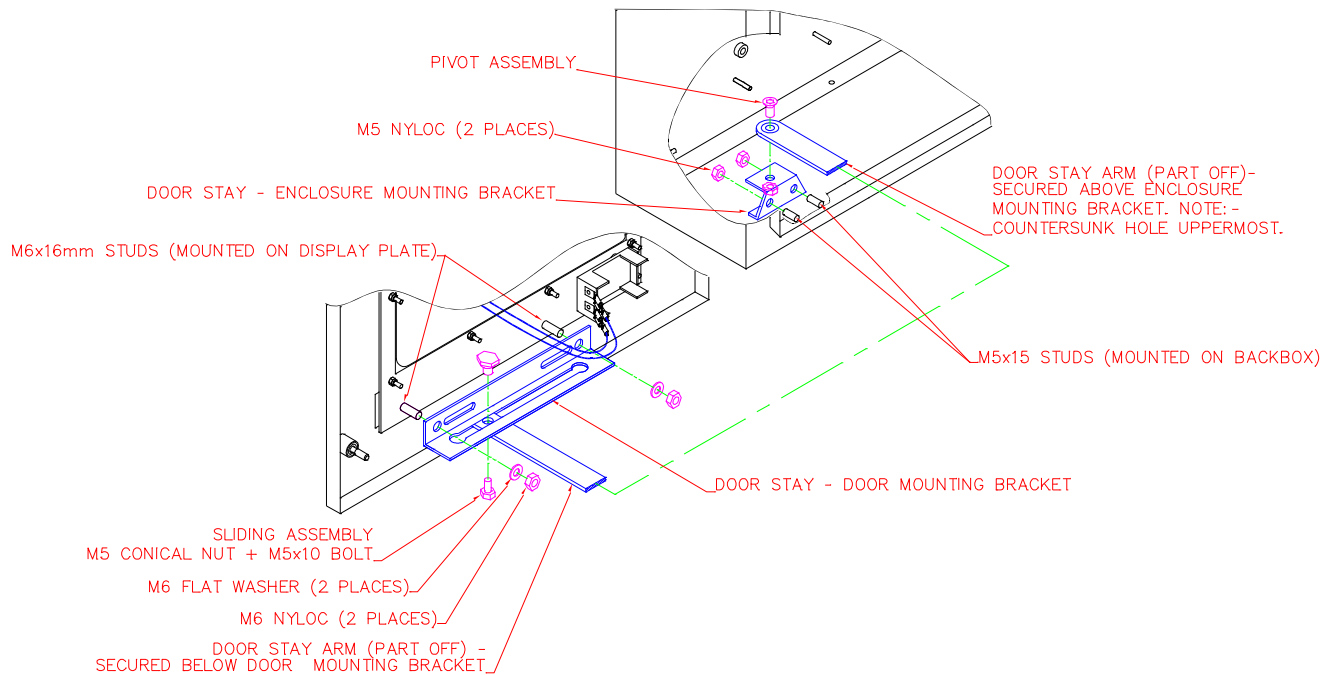

Figure 7 – Door Stay Assembly
2. A single door stay may be fitted to the door/back box assembly during the installation of the panel enclosure described in section 5.2.1. Also refer to Figure 7 – Door Stay Assembly. Note that it will be very difficult to fit the door stay with the motherboard chassis in the enclosure.
6. Offer the door stay door mounting bracket up to the studs on the display frame as shown in Figure 7 and fit one M6 washer and Nyloc nut [supplied] to each stud. The nuts should be tight enough to prevent movement between slider assembly and door.